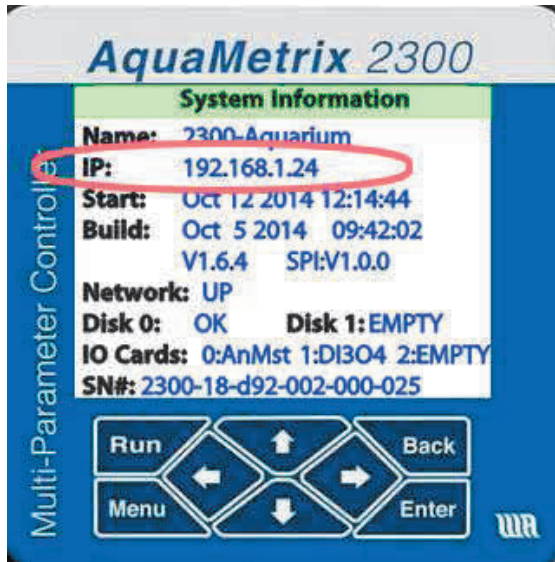

Figure 2-5 - The IP address of the 2300 assigned by the router is listed on the second line.
3. The IP address is listed on the second line. See Figure 2-5.